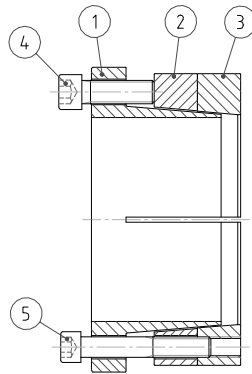

Fig. 1
2. Loosen all screws by minimum 3 turns and transfer at least 2 screws item [4] (larger size) to push-off threads in the collar item [1] in order to disengage tapers for easy installation of locking assembly (see fig. 1).
4. Loosen all screws item [5] and release collar item [3] by re-tightening all push-off screws (see fig. 1) in a crosswise pattern, not exceeding 1/4 turns for several passes.